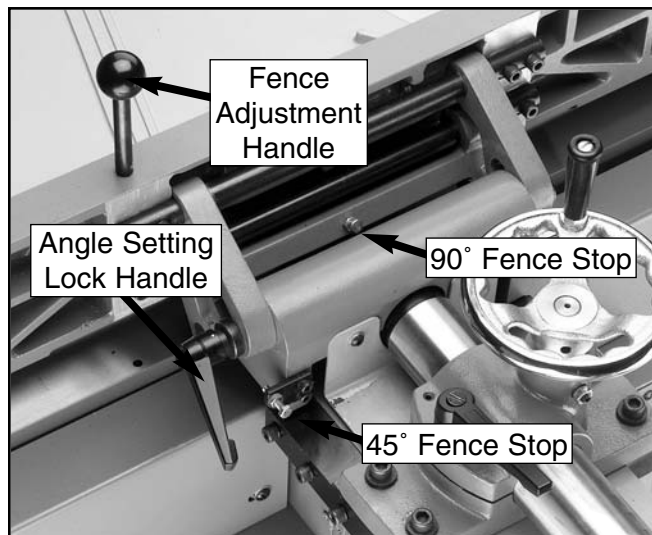

Figure 22. 90° and 45° fence stops.
1. Loosen the angle setting lock handle (**Figure 22**) while holding the fence adjustment handle with your other hand.